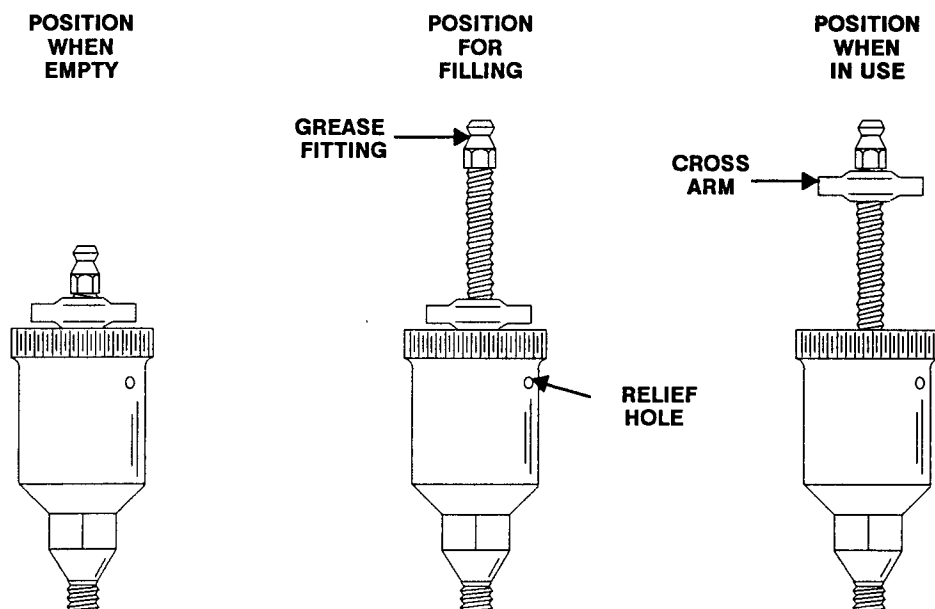

Figure 5. Automatic Lubricating Grease Cup
Fill the grease cup (15) through the grease fitting with No. 2 lithium base grease until grease escapes from the relief hole. Turn the grease cup arm counter-clockwise until it is at the top of the stem; this will release the spring to apply grease to the seal (see Figure 5).